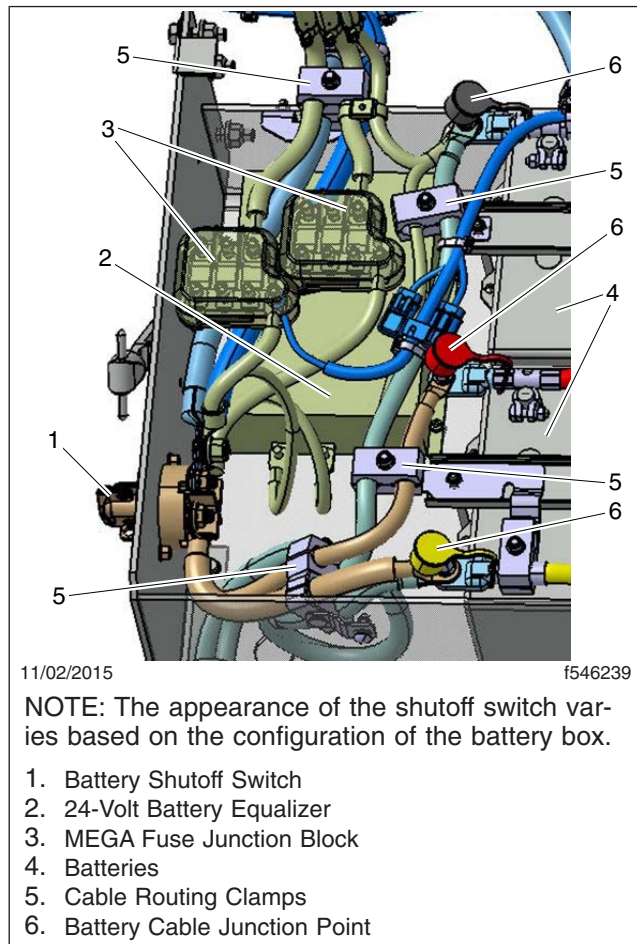

Fig. 1, Battery Box Routing
4. Disconnect the battery bank grounds. See Fig. 1.